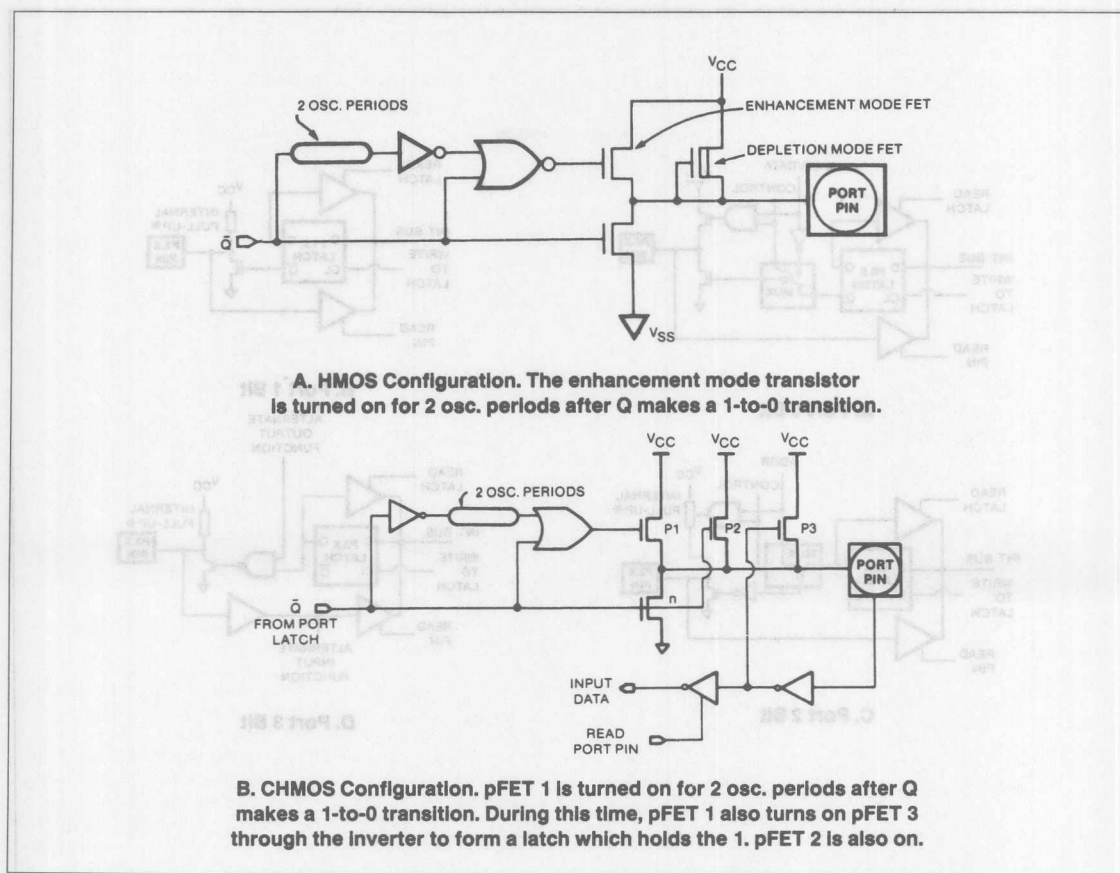

Figure 25. Ports 1 and 3 HMOS and CHMOS Internal Pullup Configurations
*See Figure 25 for details of the internal pullup.
are field-effect transistors, not linear resistors. The pullup arrangements are shown in Figure 25.
pFET1 in Figure 25 is the transistor that is turned on for 2 oscillator periods after a 0-to-1 transition in the port latch. While it's on, it turns on pFET3 (a weak pullup), through the inverter. This inverter and pPET form a latch which hold the 1.
In the HMOS device, if the pin is driven by an open-collector output, a 0-to-1 transition will have to be driven by the relatively weak depletion mode FET in Figure 25(A). In the CHMOS device, an input 0 turns off pullup pFET3, leaving only the very weak pullup pFET2 to drive the transition.